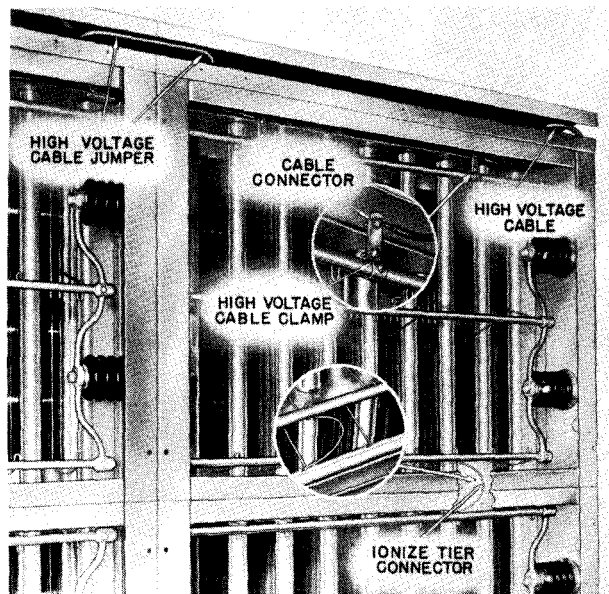

Fig. 16 High Voltage Connections To Ionizers
**Ionizer Tier Connections** are furnished in the bags supplied with the frames and are installed as shown in Fig. 16. One connector is required vertically between each frame.